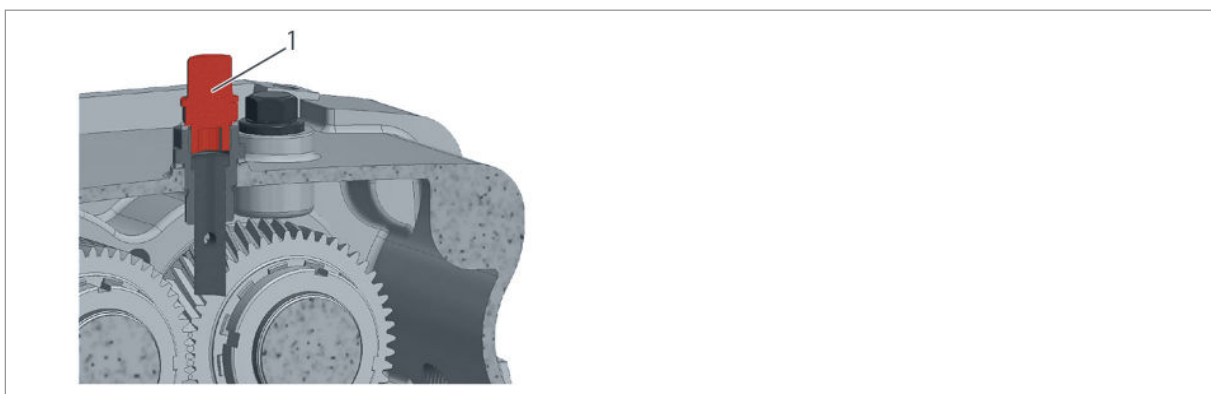

Fig. 9: Ventilation filter on the bearing casing
5. Remove the ventilation filter (Fig. 9) from the bearing casing and store it safely. Then close the opening with a blind plug.